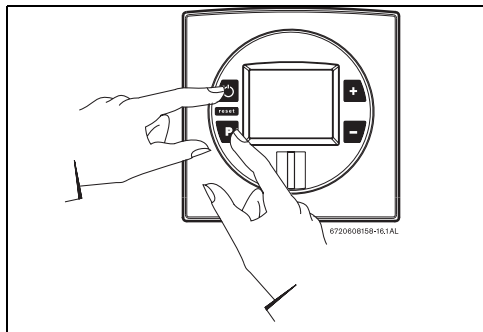

Fig. 49 Gas tuning mode
- ▶ Press and hold "Program" button and press ON/OFF button to turn appliance ON (Fig. 49).